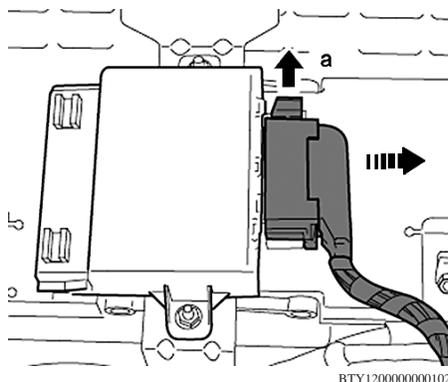

Fig. 1 DC/DC converter connector
4. Release latch on connector (a) and pull connector off DC/DC converter, **Fig. 1**.
10. Install electrical connector on DC/DC converter and lock it, **Fig. 1**.